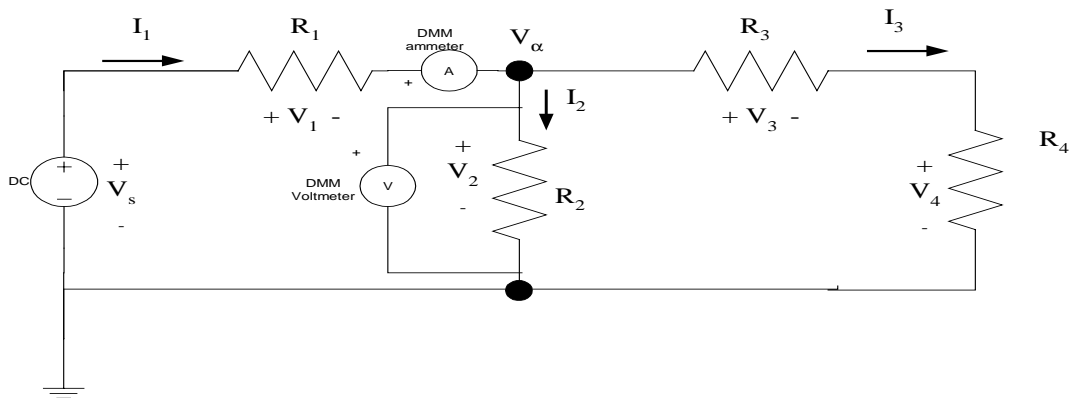

Figure 2: dc Resistive Circuit with Digital Multimeters
- B. Figure 2 shows a sample experimental set-up to measure voltages and currents. Measure I_1 , V_1 , I_2 , V_2 , I_3 , V_3 , V_4 for a source voltage $V_s = 10.0$ V. Record the results in a Table in your lab notebooks.